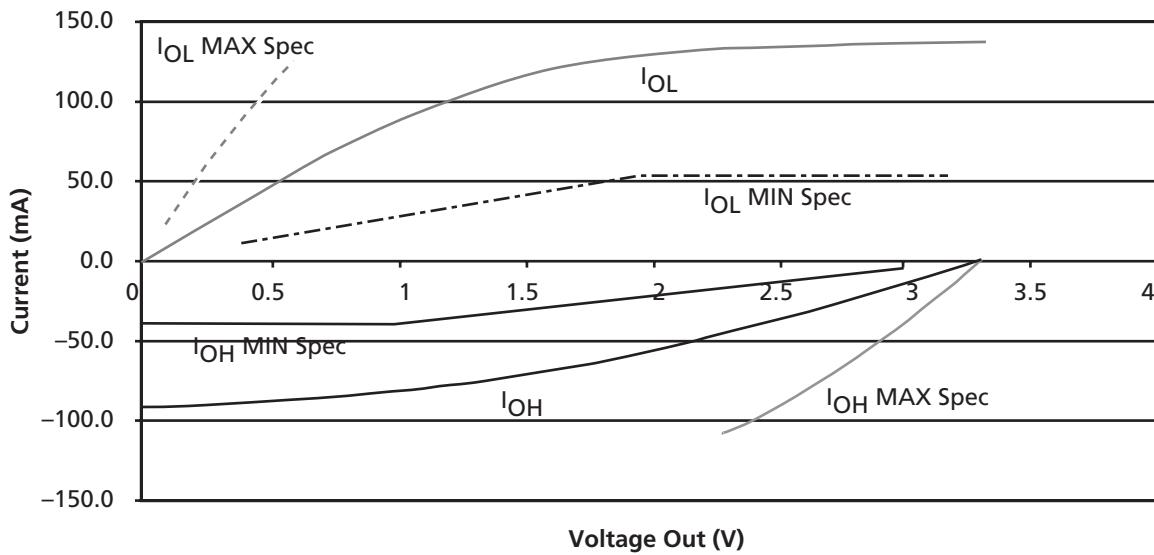

Figure 1-12 • 3.3V PCI V/I Curve for Automotive-Grade SX-A Devices
- Refer to the  $V/I$  curves in Figure 1-12 on page 1-16. Switching current characteristics for REQ# and GNT# are permitted to be one half of that specified here; i.e., half size output drivers may be used on these signals. This specification does not apply to CLK and RST#, which are system outputs. "Switching Current High" specifications are not relevant to SERR#, INTA#, INTB#, INTC#, and INTD#, which are open drain outputs.
- Maximum current requirements must be met as drivers pull beyond the last step voltage. Equations defining these maximums (C and D) are provided with the respective diagrams in Figure 1-12 on page 1-16. The equation defined maximum should be met by design. In order to facilitate component testing, a maximum current test point is defined for each side of the output driver.
Figure 1-12 shows the 3.3V PCI V/I curve and the minimum and maximum PCI drive characteristics of the automotive-grade SX-A devices.